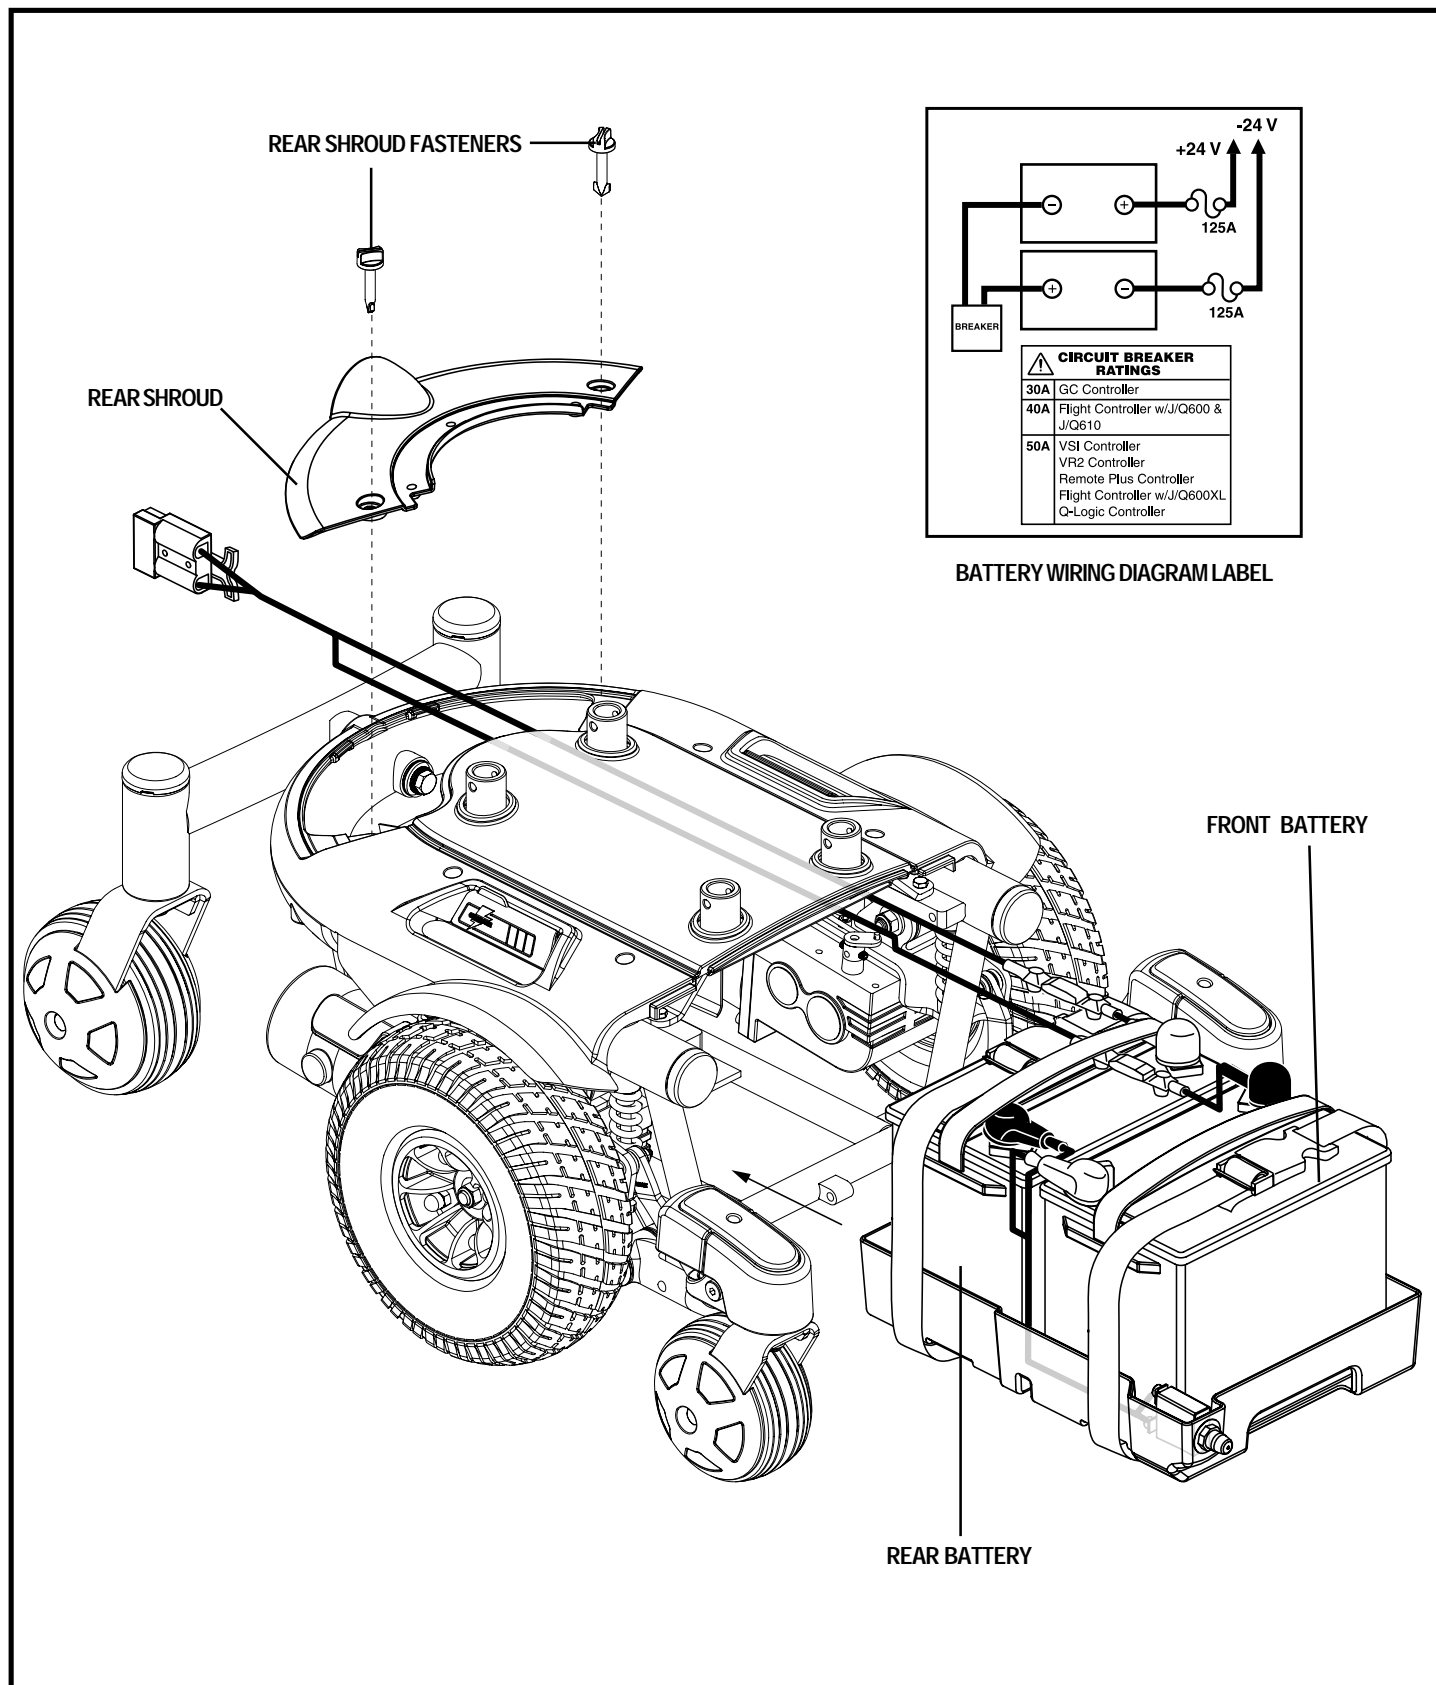

Figure 27. Battery Installation
4. Remove the rear shroud. See figure 27.
13. Connect the battery harness to the front battery according to the battery wiring diagram. See figure 27.